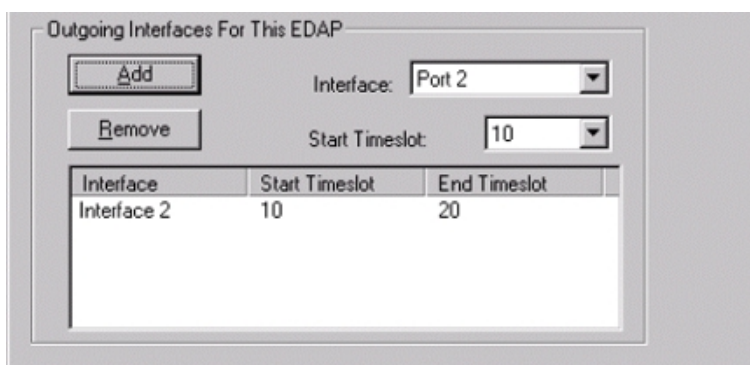

Figure 21. Selecting the interface for EDAP allocation in a cross-connected BTS configuration
4. If the EDAP is to be shared with other BTSs in a cross-connection, select the outgoing interface port in the 'Outgoing interfaces for this EDAP' box. See Figure 21 for an example of this part of the *EDAP Properties* window (this only appears if cross-connections are being used).